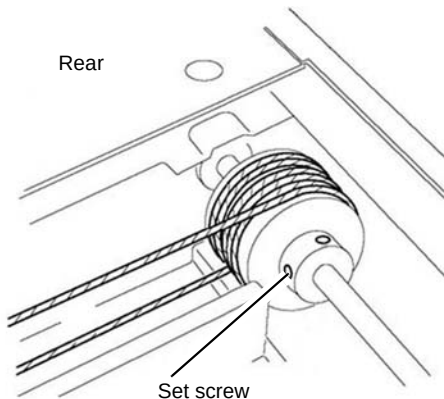

Figure 5 First rear set screw
7. Tighten one of the rear set screws, **Figure 5**.